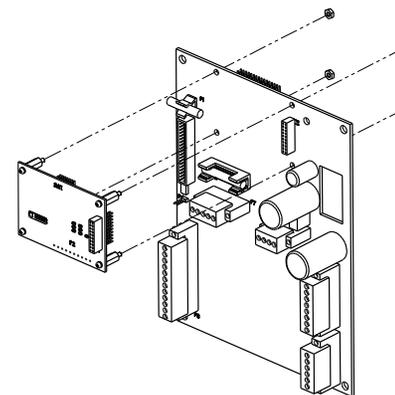

Figure 8
3. Carefully install the 4-20mA Input Card onto the Terminal Card such that the long-pinned header on the 4-20mA Input Card mates with the socket P1 on the Terminal Card. Be careful not to bend any pins while doing this. Continue to apply pressure to the 4-20mA Input Card until the 4 standoffs fit into the holes in the PCBA. See Figure 8.
4. On the back side of the Terminal Card, install 4 hex nuts onto the standoffs to hold the 4-20mA Input Card in place. Tighten to 4 in\*lbs. Do not over tighten or the standoffs may break. See Figure 8.